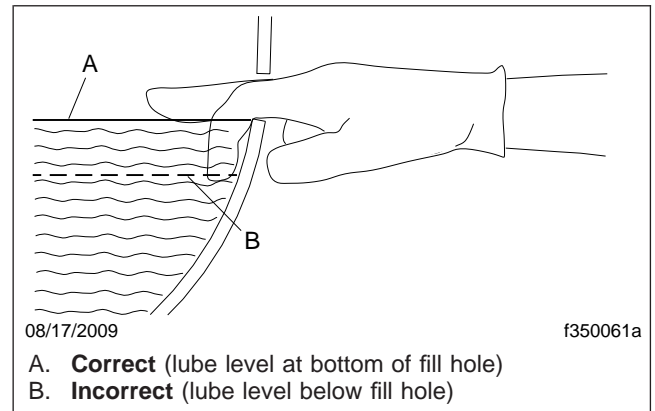

Fig. 2, Axle Lubricant Level Checking
IMPORTANT: A lubricant level close enough to be seen or touched is not sufficient. It must be level with the bottom of the fill hole (Fig. 2) or top of the standpipe opening.
4. Lubricant should be level with the bottom of the fill hole (Fig. 2) or with the top of the standpipe opening. If low, check the axle for oil leaks, and correct as needed. Add lubricant as required. See Table 1 for recommended drive axle lubricants.